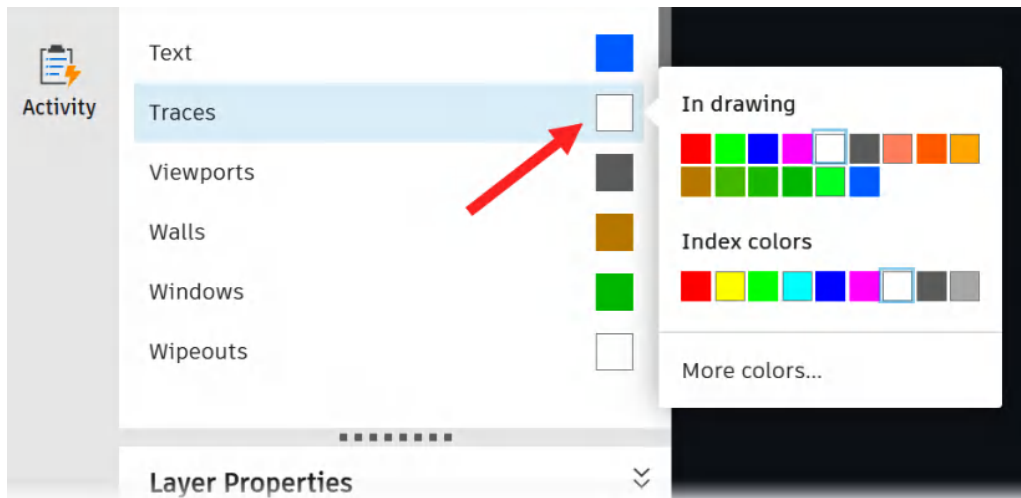

Figure 15.16: The AutoCAD Web color palette
13. The new **Traces** layer is by default white. Click on the color box to the right of the layer name to change the color, and the color palette will appear, displaying the colors in the drawing and the AutoCAD index colors, as shown in *Figure 15.16*.